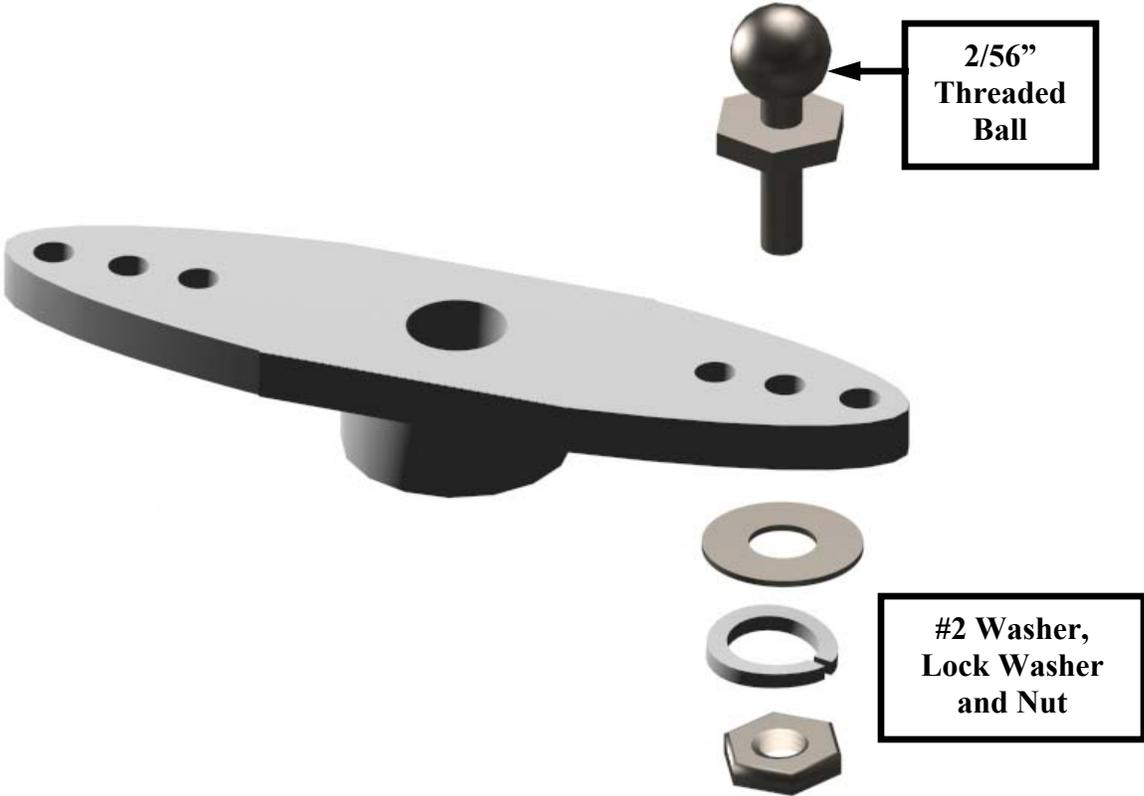

Figure 45
2. Attach the ball link with the #2 washer, lock washer and lock nut (Figure 45). The ball should be orientated towards the flat side of the servo arm.